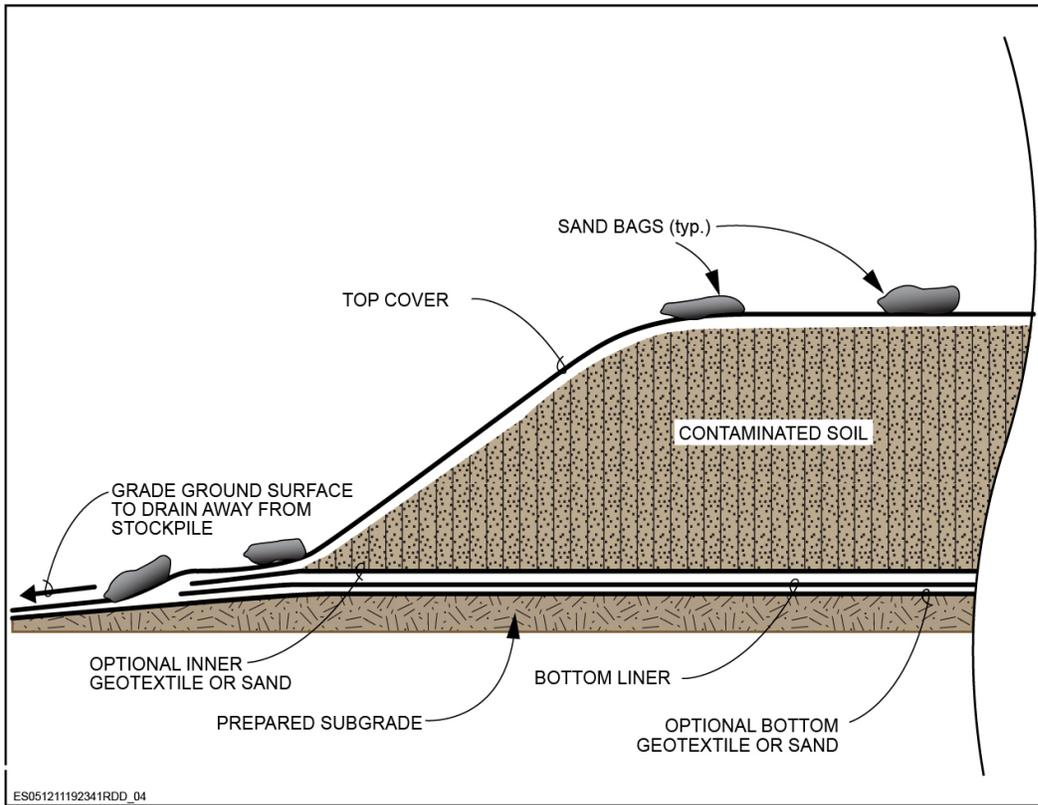
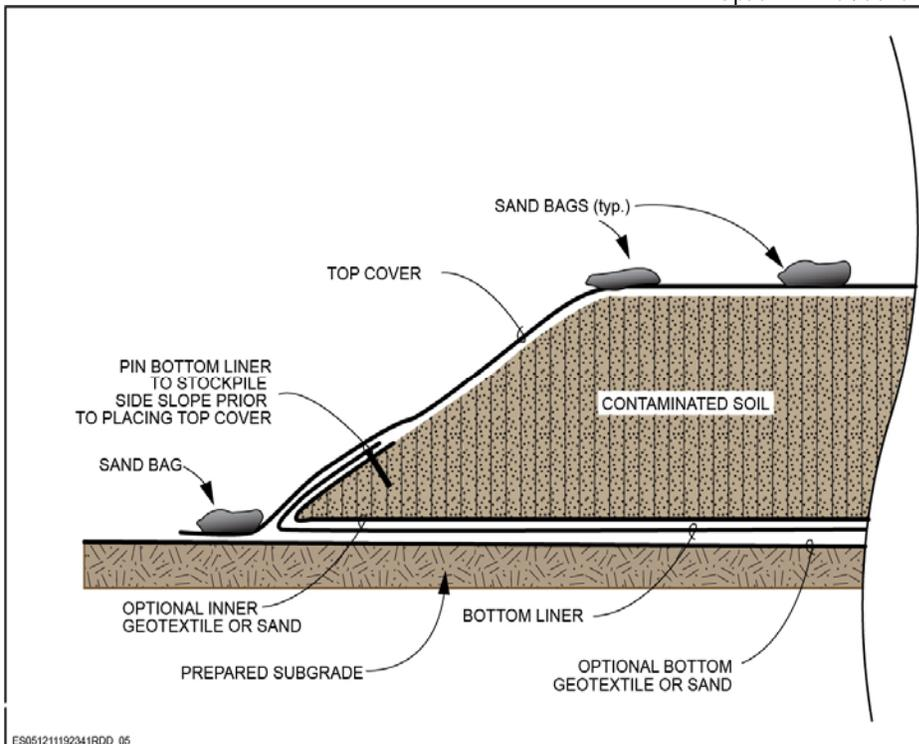
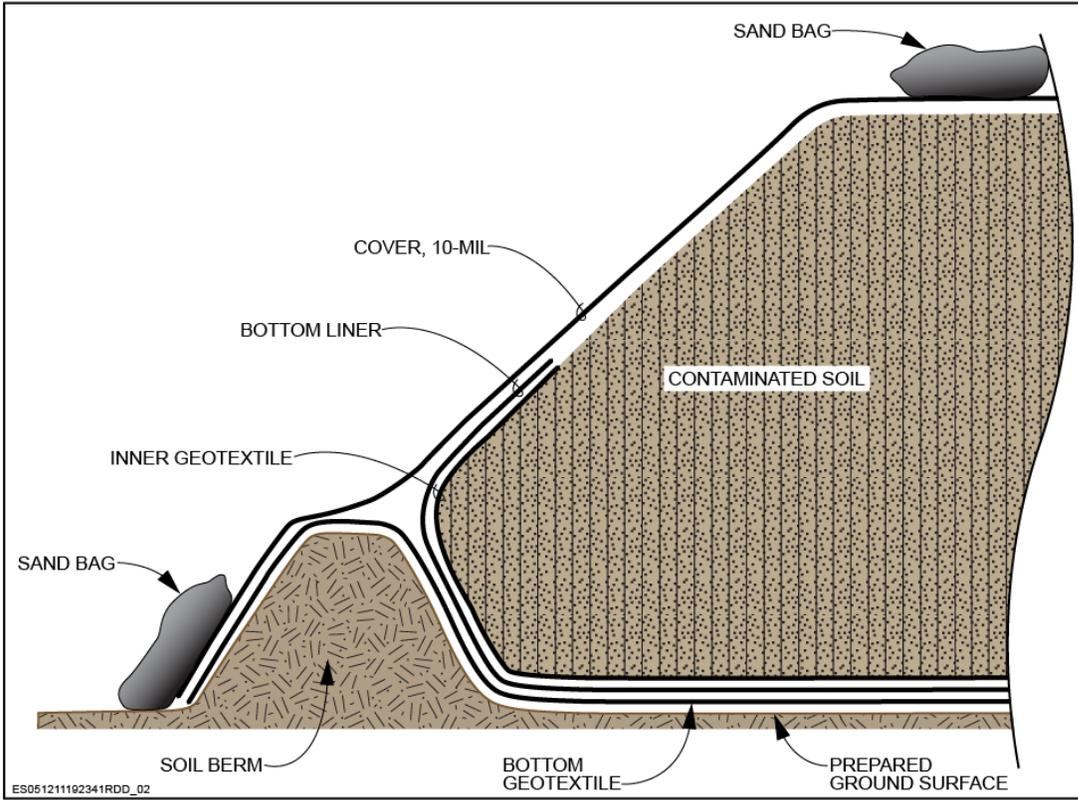

FIGURE 1
FIGURE 2
FIGURE 3
Several stockpile configurations can be considered depending on the stockpile location and duration, the nature of the material in the stockpile, and the ground slope at the stockpile location. Typical soil stockpile configurations (options) are schematically shown on Figures 1 through 3 (located at the end of this SOP). Figure 1 is applicable when the ground surface adjacent to the stockpile slopes naturally or is mechanically graded away from the stockpile to prevent surface water from entering the stockpile between the bottom liner and top cover. Figures 2 and 3 are applicable when the ground surface is relatively flat or gently slopes toward the stockpile. Figure 3 is preferable when the contaminated soil in the stockpile is very wet and the potential exists for water to drain out of the soil. No leachate is expected from soils excavated from Galena, so no leachate system is designed in these stockpiles.
- Prepare the foundation layer. Clear and grub the stockpile area to remove roots, rocks, and other sharp objects that may potentially puncture the bottom liner. For Option 3 (see Figure 3), a soil berm typically 2 feet high is placed near the inside edge of the stockpile area to prevent surface water from entering or leachate from leaving the stockpile. Sand or a cushioning nonwoven geotextile material may be required on the subgrade to provide a suitable foundation.
- Cover the stockpile with a minimum 10-mil, polyethylene cover or equivalent. (Note: 18 AAC 75.375 allows the use of minimum 6-mil polyethylene cover. However, 10-mil material is required in this SOP). The edges will be lapped over the bottom liner to prevent precipitation and surface runoff from entering the stockpile. For Option 2 (see Figure 2), wrap the bottom liner up the stockpile side slope and secure with pins or rope, as shown on Figure 2, prior to placing and securing the top cover. The top cover dimensions are larger than the bottom liner footprint and must be calculated by using the area of the bottom liner and the height and configuration of the stockpiled soil.